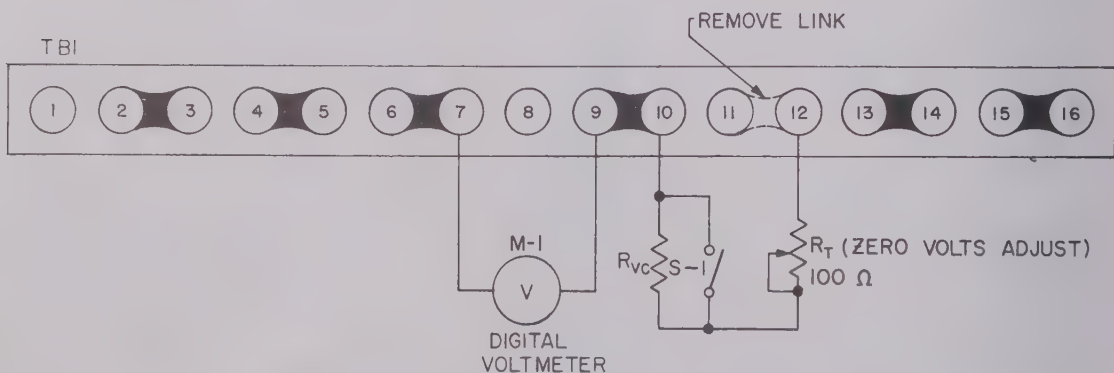

FIG. 3-2 CONNECTIONS FOR PRECISION PROGRAMMING RATIO ADJUSTMENT
- b) With line power removed from the power supply, remove links on the rear barrier strip between terminals (9) and (10) and between terminals (11) and (12).
- c) Connect external components as shown in Fig. 3-2.